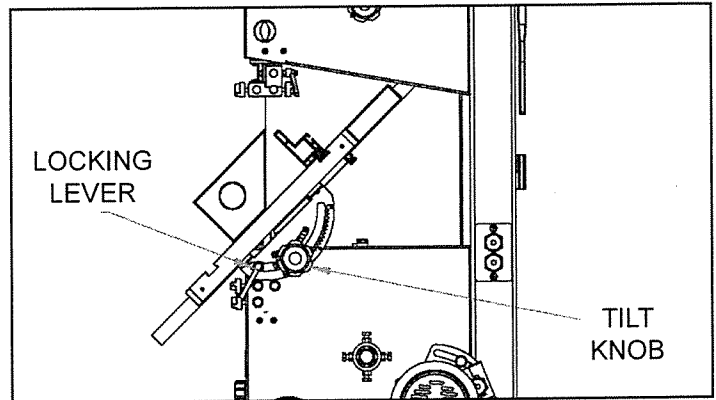

FIGURE 12
1. To tilt the table, loosen the Locking Lever (#78A) on the table trunnion. Turn the Tilt Knob (#77A) to tilt the table to the required angle and then tighten the Locking Lever to secure the table. FIG 12.